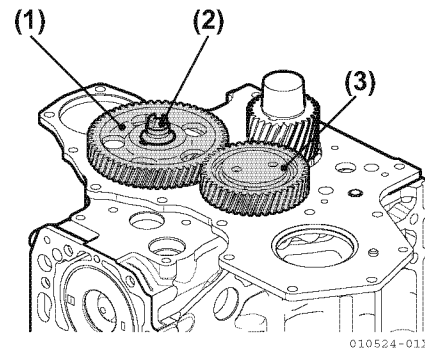

Figure 5-48
42. Loosen the three bolts holding the idle gear and pull out the idler gear and shaft (Figure 5-48).